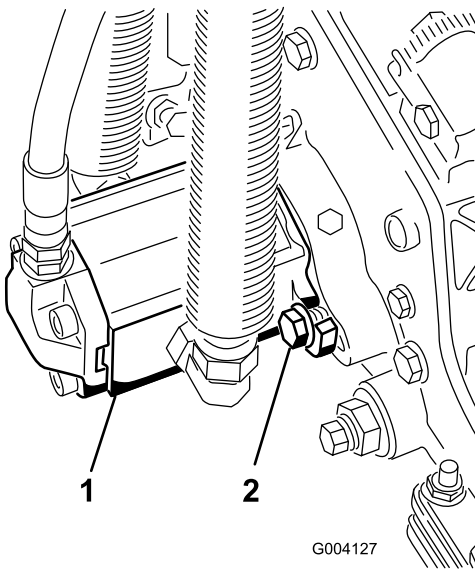

Figure 19
10. Install the motor by rotating it clockwise so that the motor flanges clear the cap screws (Figure 19). Rotate the motor counterclockwise until the flanges encircle the cap screws then tighten the cap screws